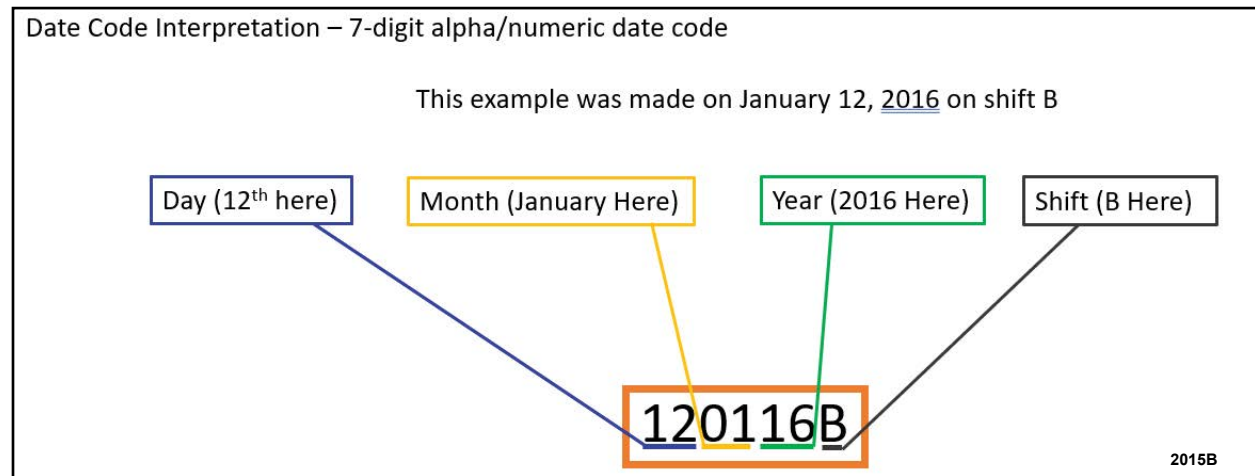

FIGURE 3
6. Using Figure 3 below, decode the 7-digit date code. Record the decoded date and proceed to Step 10.